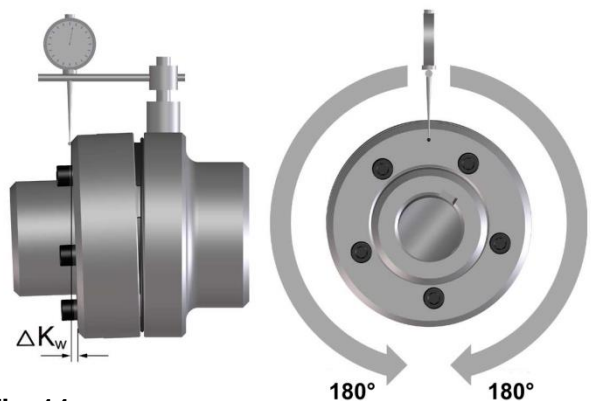

Fig. 14
- ❑ Calibrate one entire rotation (360°). Determine the largest deviation ΔK_{w1} as well as the smallest deviation ΔK_{w2} (Fig. 14). Calculate the angular misalignment $\Delta K_w = \Delta K_{w1} - \Delta K_{w2}$.